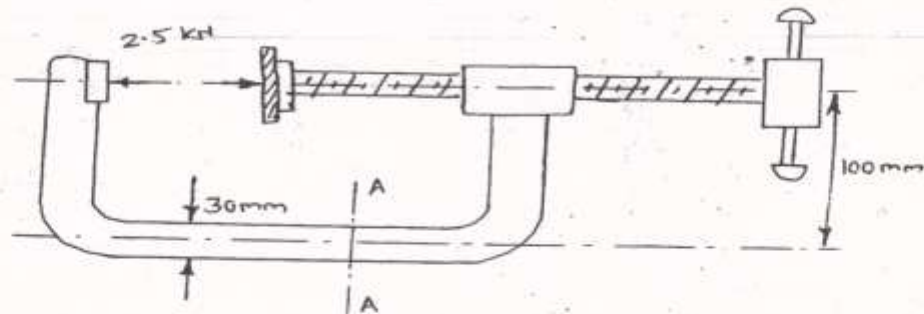

Fig. No. 3
- e) A clamp made up of rectangular cross-section 30×10 mm as shown in Figure No. 3 is subjected to a force of 2.5 kN. Find the stresses induced at section A-A.